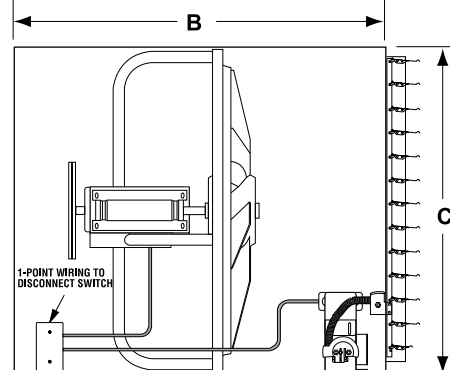

Figure 6
- Slide the fan wall housing through the inside of the framed opening in the wall. Fasten with bolts or screws provided by the installer. Position the box so the top panel, having both sides turned down, is on top. Caulk between the top flanges and the wall (see Fig. 6). Fan wall housing can also be attached to outside of framed opening utilizing the mounting flanges.